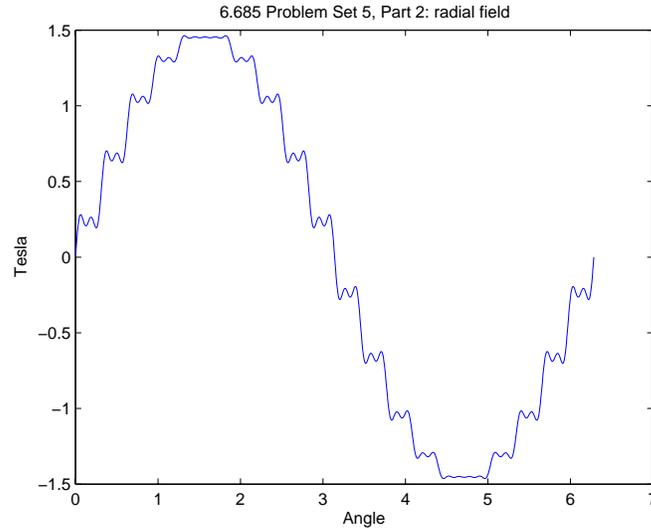

Figure 5: Radial Flux Density from Armature at  $t = 0$
4. Adding up the field harmonics is just a little bit more than simply adding up a bunch of terms as indicated above, and the MATLAB script appended does this, but it is important to remember that, once we have included provision for the pitch factor, that the Fourier Series includes an additional sign factor  $\sin(n-1)\frac{\pi}{2}$ . If you forgot this factor, your plot will look wrong. A plot for this is shown in Figure 5.